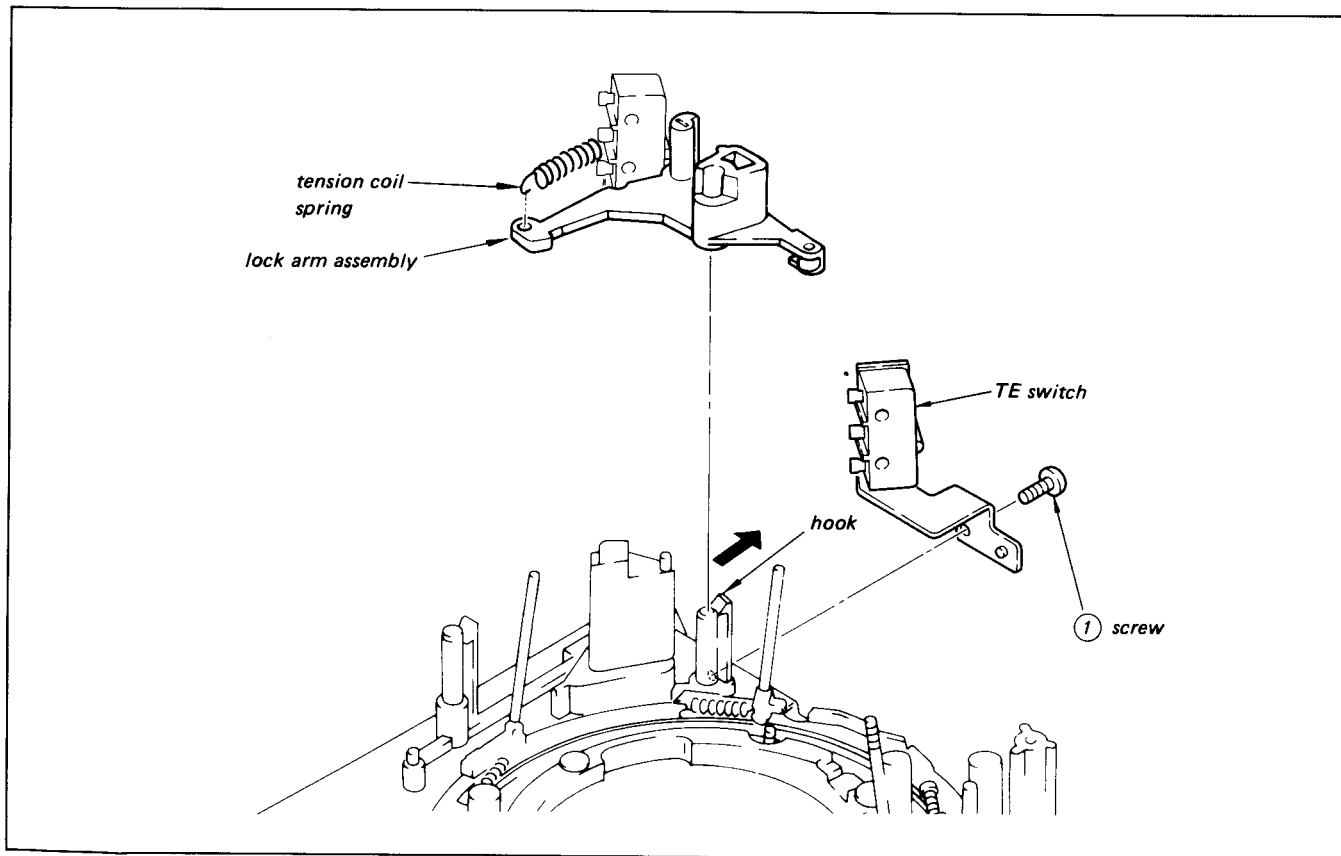
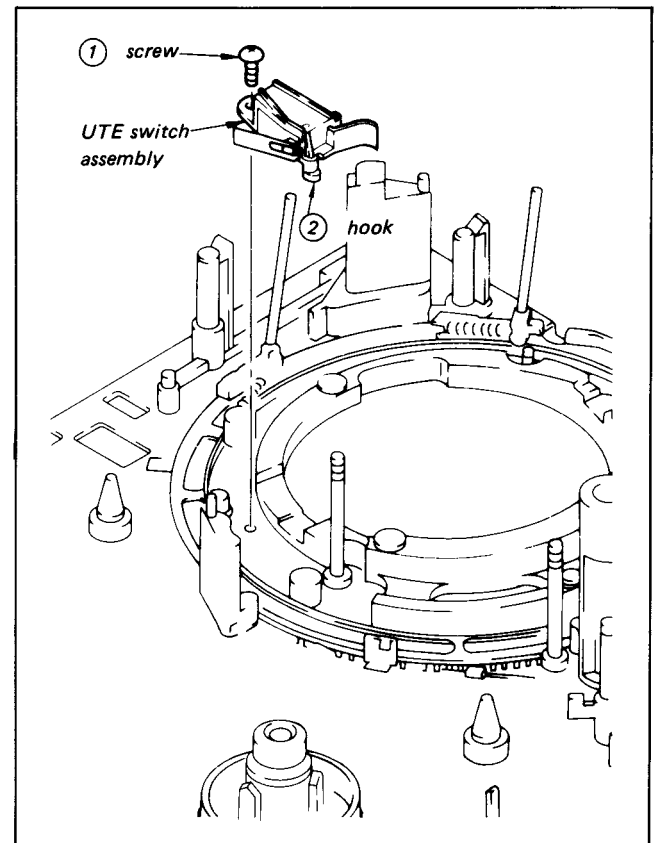

Fig. 3-34. Removing TE Switch and Lock Arm Assembly
Fig. 3-38. Removing UTE Switch
- 1) Remove the spring of the lock arm assembly. (Refer to Paragraph 3-15-1, Fig. 3-34)
- 2) Remove stop washers ① and ring rollers ②, ③.
- 3) Remove the UTE switch subassembly. (Refer to Paragraph 3-15-2, Fig. 3-38)
- 4) Unscrew screw ④ and remove the ring roller adjustment plate ⑤ and ring roller ⑥.
- 5) Remove the S threading ring ⑦.
[Removal] (Fig. 3-34)
- 1) Unscrew screw ① as shown in Fig. 3-38.
- 2) Release the switch hook ② from the chassis and remove the switch body while pushing the actuator to the "ON" position.